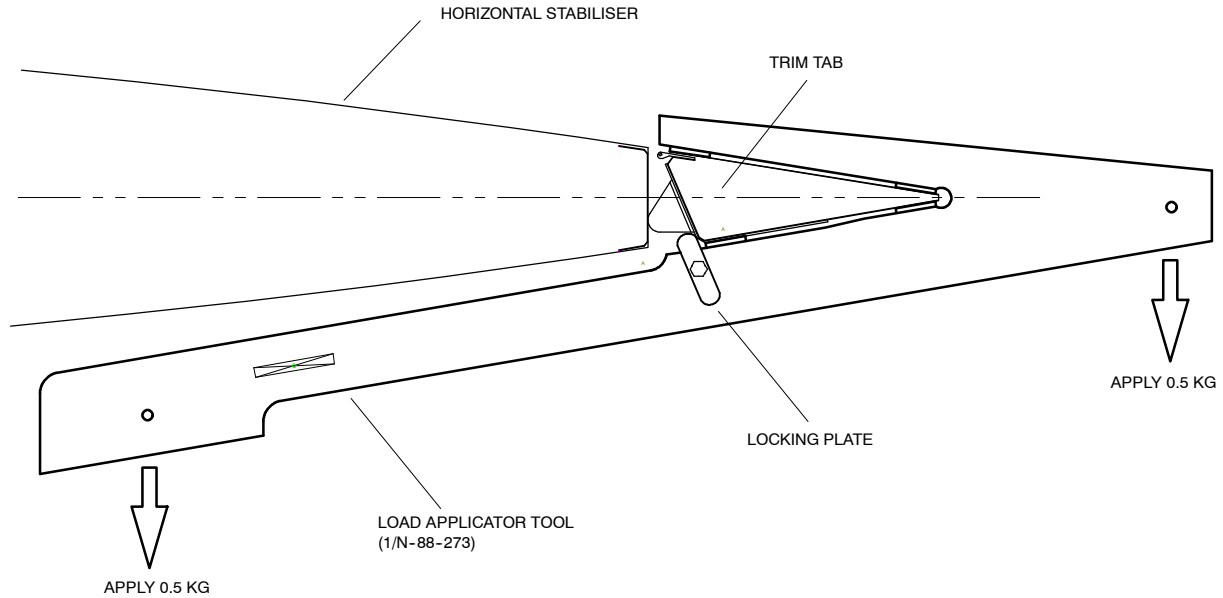

Figure 1. Horizontal Stabiliser Trim Tab Backlash Measurement.
- (b) Fit Load Applicator at inboard end of Trim Tab as shown on Figure 1., and apply Locking Plate.